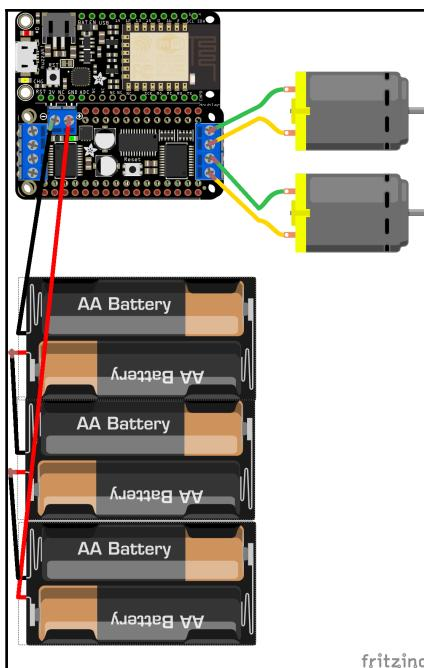

Figure 8.9: Powering DC Motors FeatherWing with a 6AA battery holder
7. Connect the + and - lines from the 6-AA battery holder to the DC Motor FeatherWing power terminals (*Figure 8.9*). Don't insert the batteries in the battery holder yet: